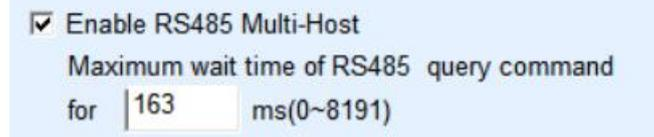

Figure 45 RS232 multi-host support
2. Figure 45 shows the "RS485 command response timeout time", which is generally determined by the length of the command to and from the reply. If the send command is N bytes and the reply is M bytes, the recommended value is "packet
as shown in Figure 45 need to be removed. Otherwise, the preceding forwarding function cannot be implemented.